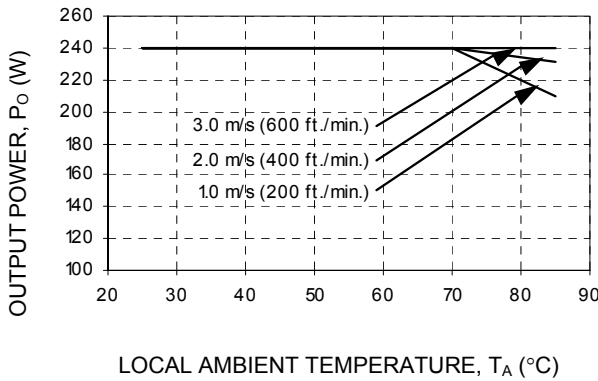

Figure 16. Output Power Derating for QUK240S9R0 in the Transverse Orientation with baseplate; Airflow Direction From Vin(-) to Vin(+); Vin = 48V
Determine airflow (V) (Use Figure 16):